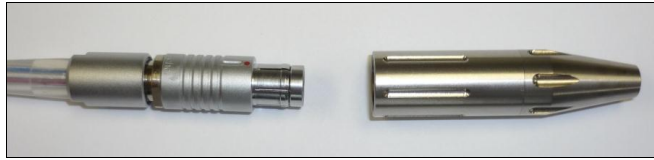

Figure 61: Driveline cap connection
18. Connect the driveline cap to the driveline by pushing both connectors together until you feel a “click” (Figure 61). Protect the connector from exposure to fluids.